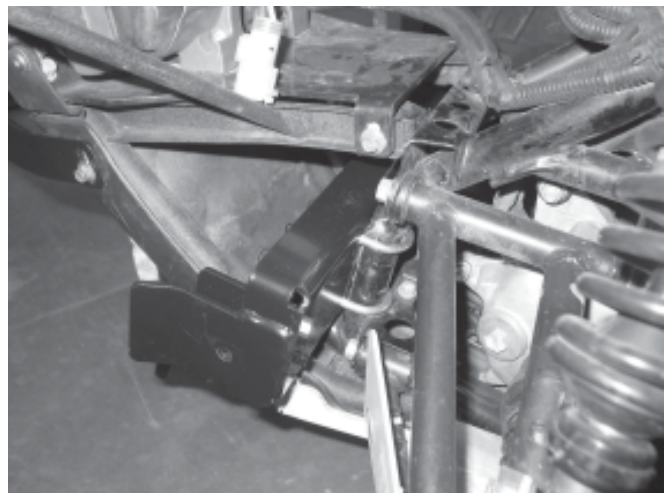

Figure 3
3. Slide u-bolts around vehicle frame tube and through back side of plow mount as shown in Figure 3.